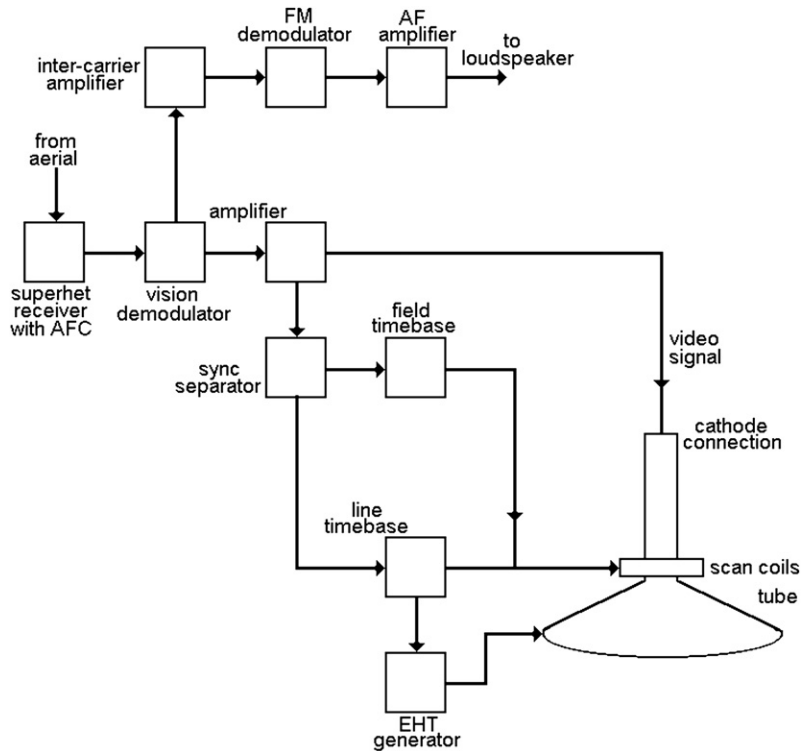

Figure 8.13:
An analog television receiver for monochrome (Figure 8.13) has to deal with several signal-separating actions. The signal from the antenna is processed in a straightforward superhet type of receiver, and the methods that are used differ only because of the higher frequencies and the larger bandwidth. The vision and sound carriers are received together, and so the intermediate-frequency (IF) stages need to have a bandwidth that is typically about 6 MHz, enough to take the wideband video IF and the sound IF together. The real differences start at the demodulation block. A typical IF range is 35–39.5 MHz (for amplitude 6 dB down from maximum).